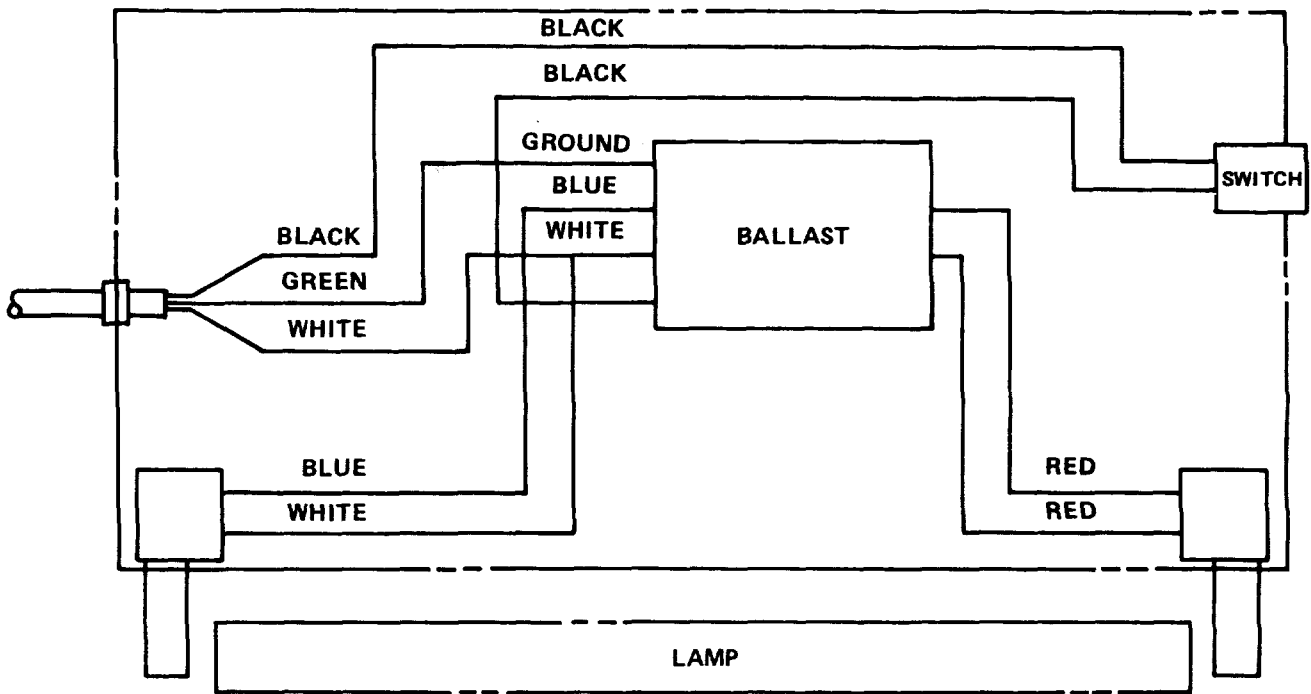

Figure 7-5. Console Light Unit Wiring Diagram
for replacement of console light components (figure 74). A schematic wiring diagram of the console lighting circuit is shown in figure 7-5.
- (1) Remove fluorescent lamp.
- (2) Remove two sets of hardware securing ballast to light unit housing. Remove green ground wire. Remove bare ground wire twisted around screw under ballast.
- (3) Remove screws holding each lamp holder to light unit housing; remove lamp holders.
- (4) Remove insulation clip from back of each lamp holder.
- (5) Disconnect two red wires from terminals of one lamp holder; two white wires and one blue wire from terminals of other lamp holder.
- (6) Remove old ballast from unit.
- (7) Sandpaper around holes for ballast on inside of light unit housing.
- (8) Install new ballast in accordance with wiring diagram in figure 7-5.
- (9) Install insulation clip on the back of each lampholder.
- (10) Install each lamp holder onto housing.
- (11) Install ballast onto housing and bare ground wire to screw under ballast.
- (12) Install lamp into holders.